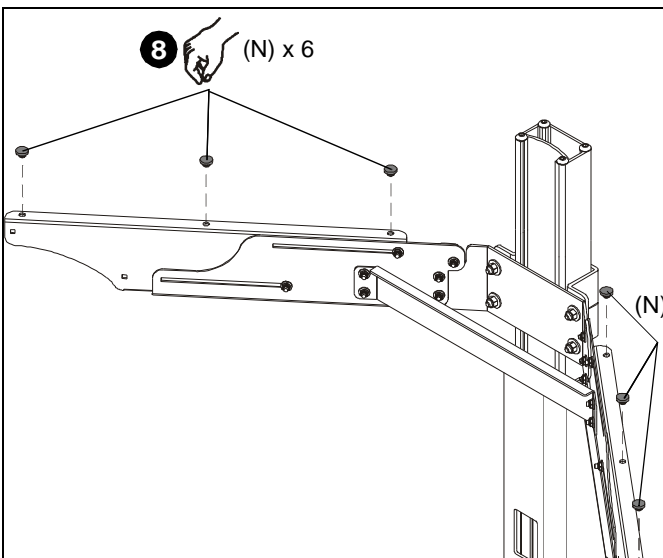

Figure 5
- Add six rubber bumpers (N) to top of bracket assembly. (See Figure 5)